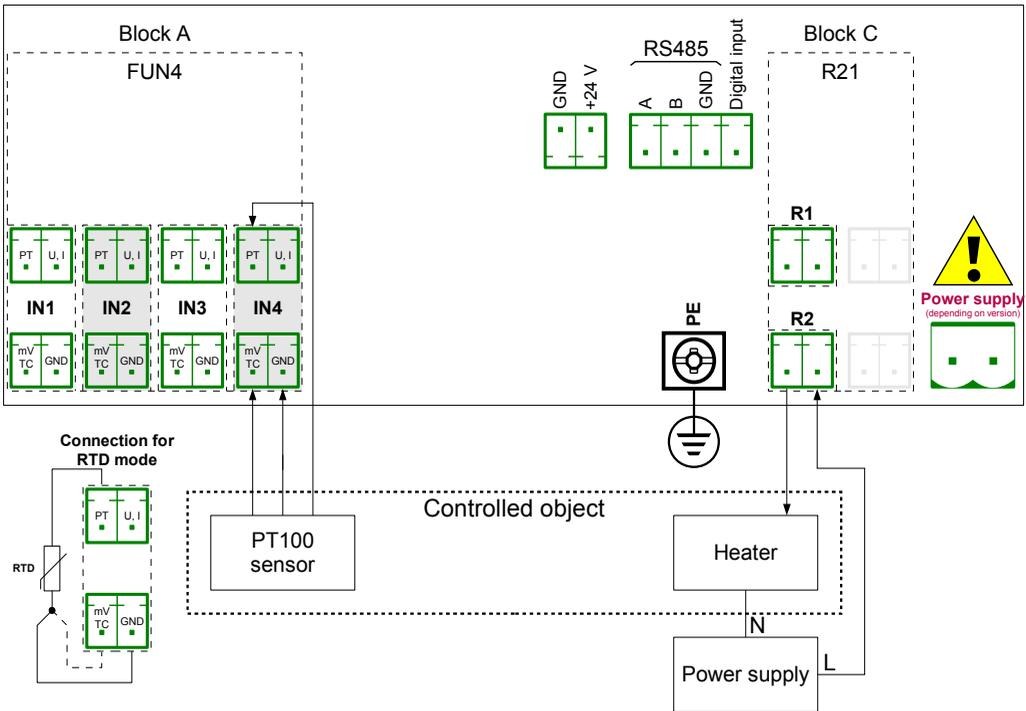

Fig. 7.94. Schematic diagram for the FUN4 hardware configuration in RTD mode and output hardware configuration
First configure the device as described below, then connect the object and power supply as shown in **Fig. 7.94.**
To control temperature in the object shown in Fig. 7.94, it is necessary to configure one **Logical channel** and **Relay output**.
- **Source** parameter set as **Inp.A4 : Universal** (see Fig. 7.94),
- using the arrows in the top navigation bar, select a relay output which is connected to the heater. For this example it is the output named **Out.C2 : Relay** (see **Fig. 7.94**),